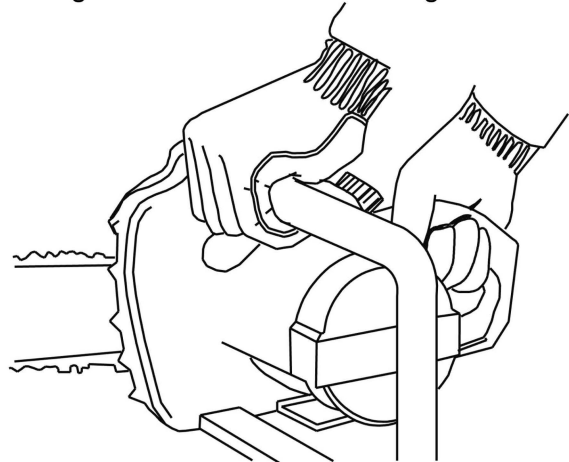

Figure 17: Holding the Chainsaw
4. Grasp the Handles with both hands. Always grip the handle with the thumb and fingers encircling the handle as shown in Figure 17.